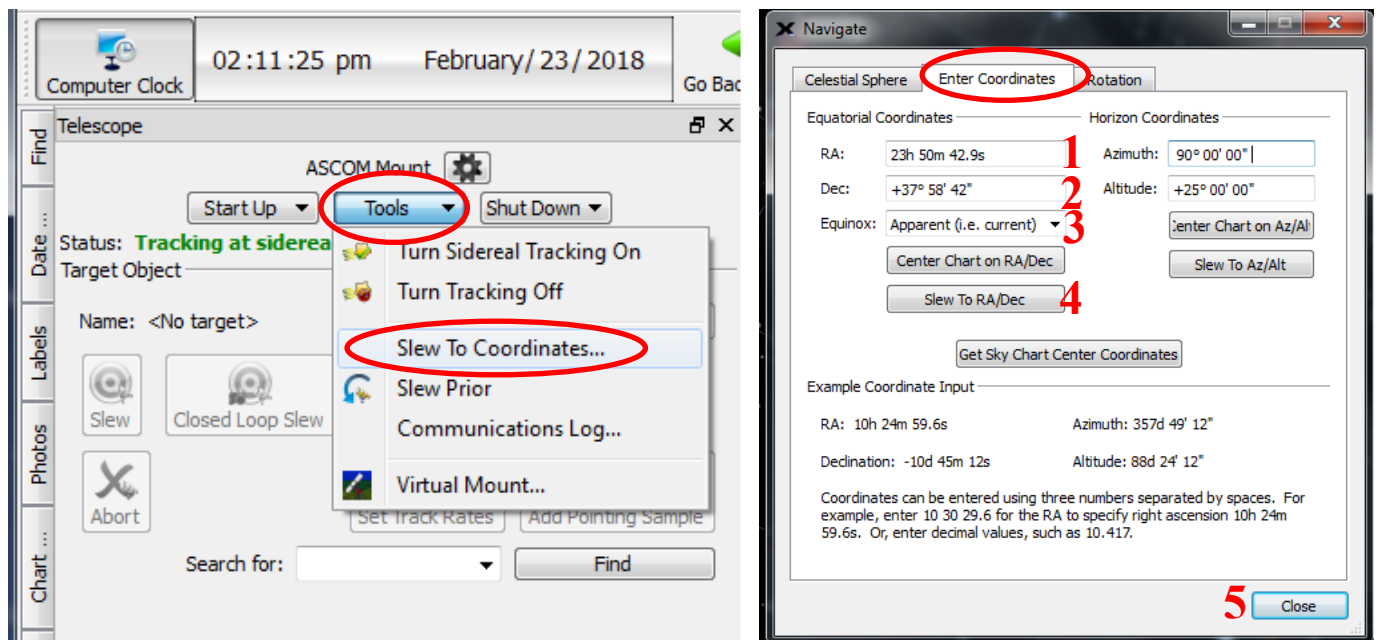

Fig. 2.21. The Tools menu (left) and the Navigation menu (right) of “TheSkyX” software.
1. Click on the “Tools” menu and select “Slew To Coordinates...” (Fig. 2.21 left). The “Navigate” menu opens as a new window.
2. In the “Navigate” menu, click on the “Enter Coordinates” tab. Fill in the RA and DEC boxes (Fig. 2.21 right No 1-2). Select “Equinox” (e.g. J2000) (No 3), and press the “Slew To RA/Dec” (No 4).